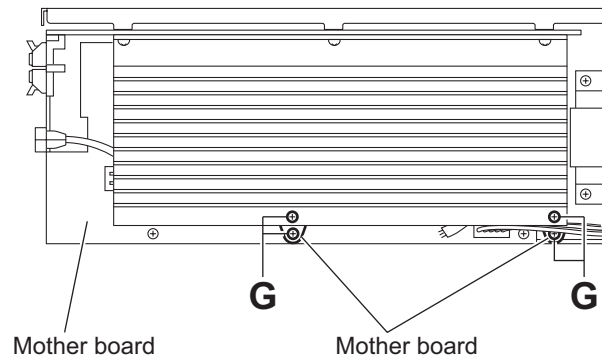

Fig.7
- (2) From the left side of the amplifier assembly, remove the four screws **G** attaching the heat sink BKT. (See Fig.7)
- (3) Take out the two heat sink BKT.